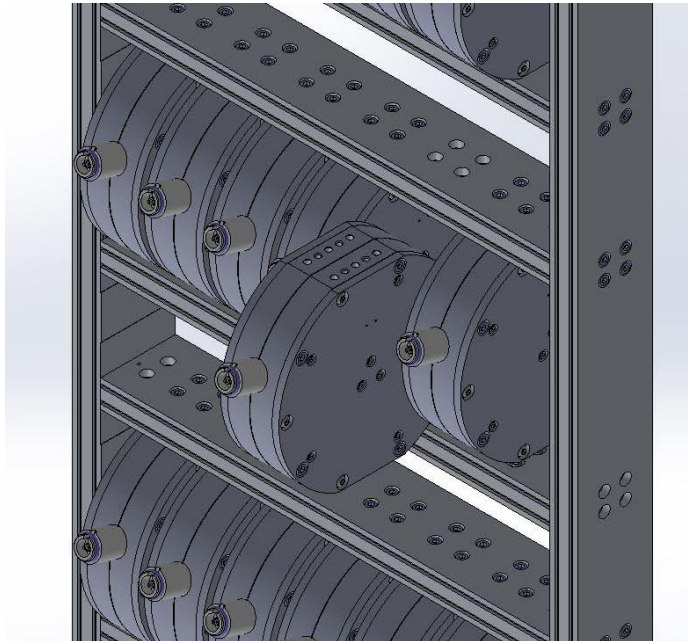

Figure 87 Remove the broken reactor
17. Carefully slide out the reactor, see Figure 87.